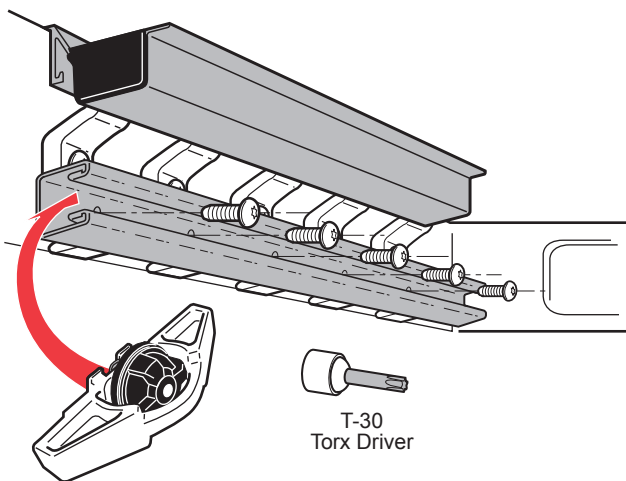

Figure 12
a) Using factory bed rail hardware, install bed rails onto bottom holes of clamp brackets. (Fig. 12)